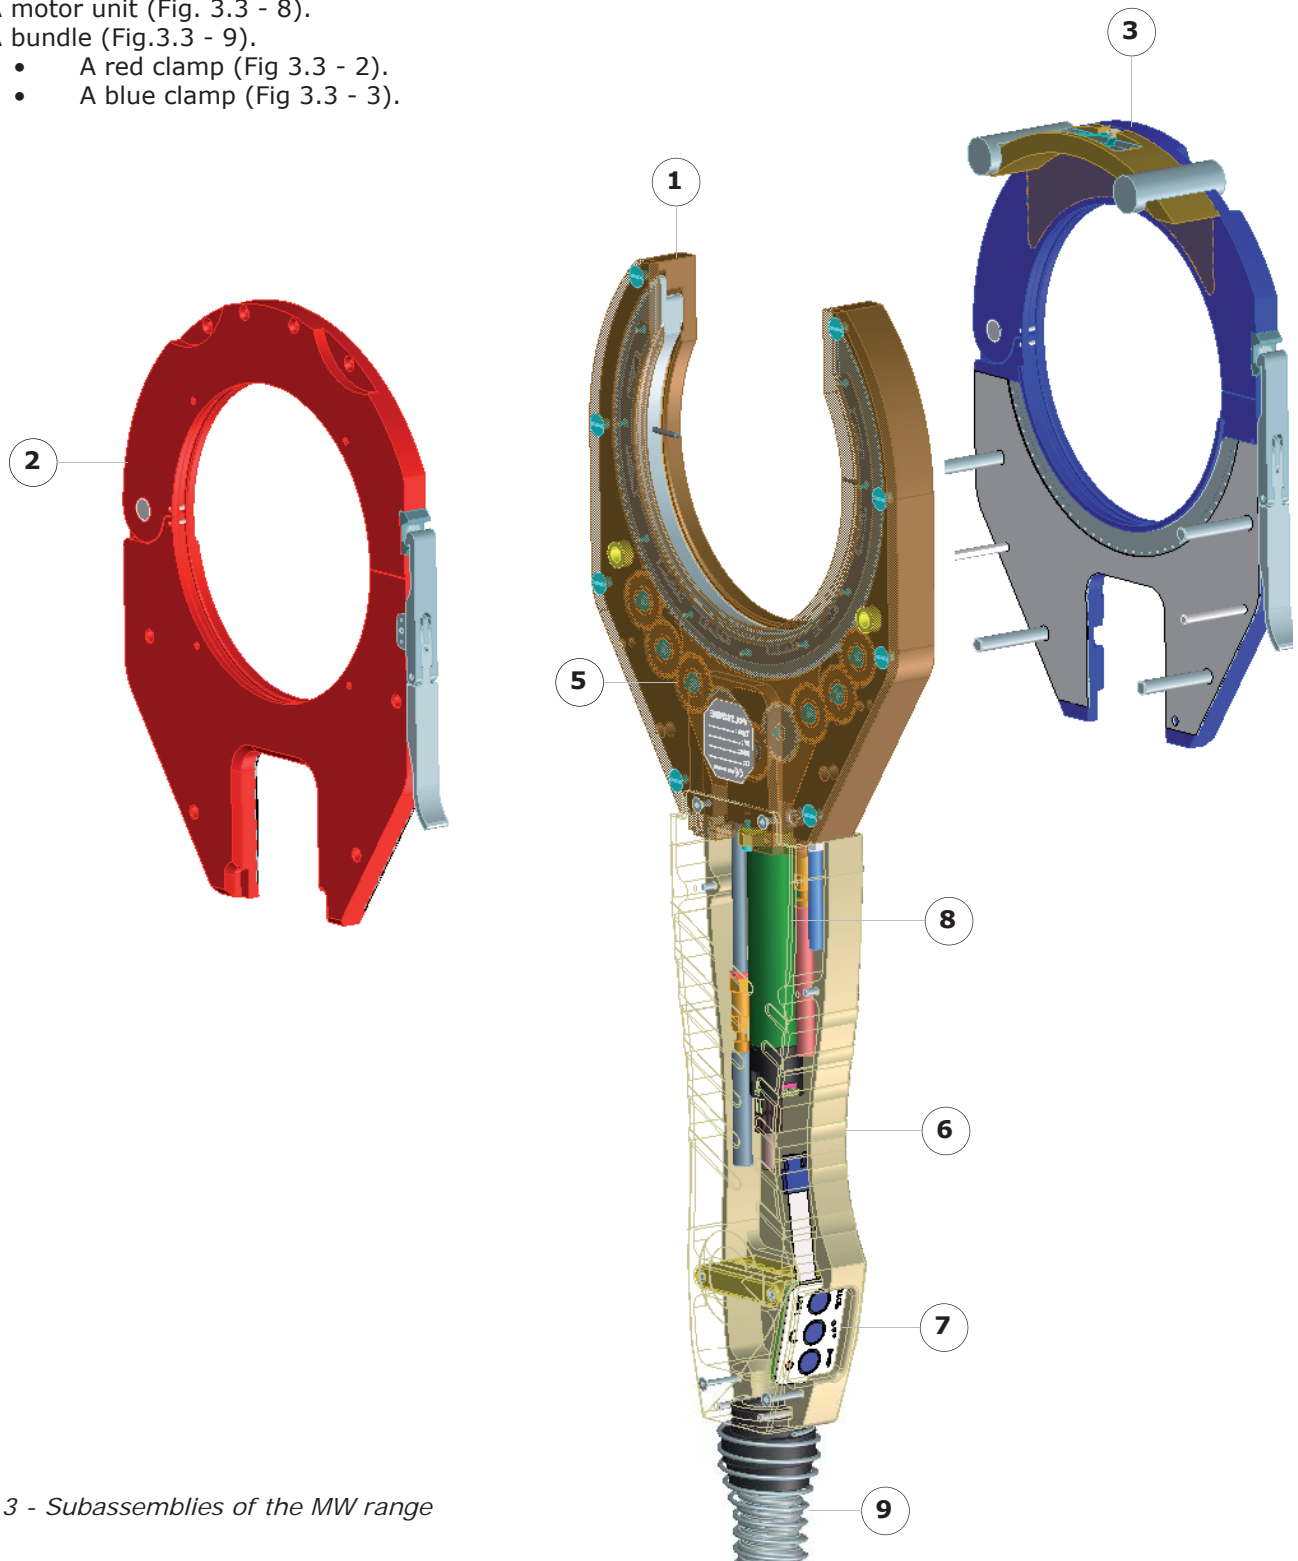

Fig.3.3 - Subassemblies of the MW range
- An unclamped welding head (Fig 3.3 - 1):
- A drive (Fig. 3.3 - 5) fitted with a travel limiting system.
- A handle (Fig. 3.3 - 6)
- An integrated remote control (Fig. 3.3 - 7).
- A motor unit (Fig. 3.3 - 8).
- A bundle (Fig.3.3 - 9).
- A red clamp (Fig 3.3 - 2).
- A blue clamp (Fig 3.3 - 3).